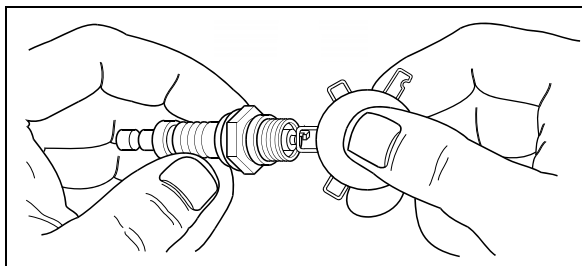

Figure 4-5: Spark Plug Gap Adjustment
5. Check the spark plug gap using a wire feeler gauge. See Figure 4-5. Adjust the gap by carefully bending the ground electrode to: